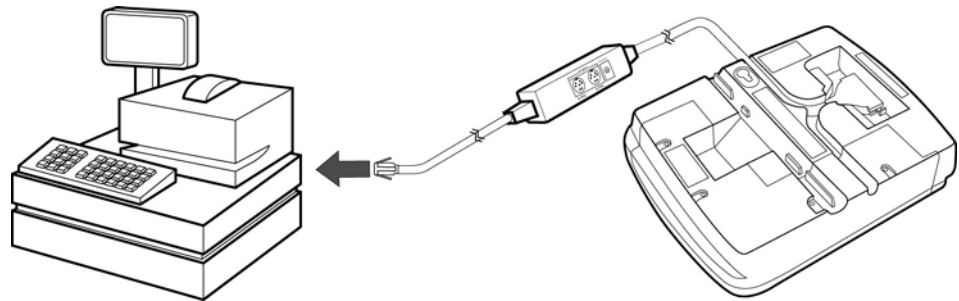

Figure 22 Example ECR Connection
To connect an ECR to the Omni 7xxxMPD series terminal (see Figure 22):
- 2 Insert the multiport cable plug into the bottom socket on the Omni 7xxxMPD series terminal, as shown in Figure 22.